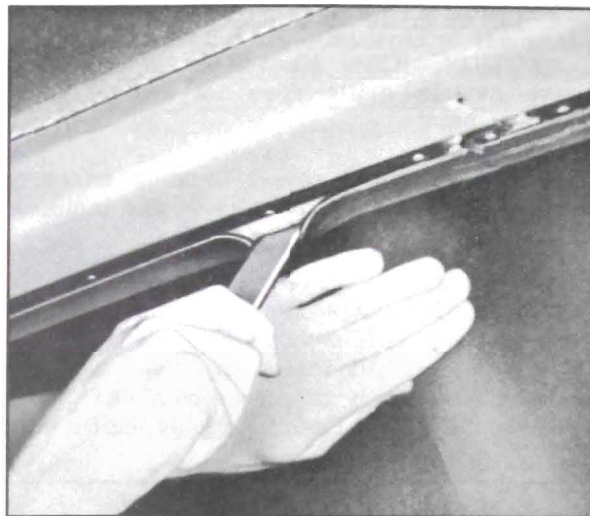

Figure 1-6—Windshield Glass Removal
7. On inside of body loosen lip of rubber channel from pinchweld flange along top and sides of windshield as follows: With palm of hand, apply pressure to glass near edge (Figure 1-6); at same time, use a blunt putty knife or other suitable tool and carefully assist rubber channel over pinchweld flange.